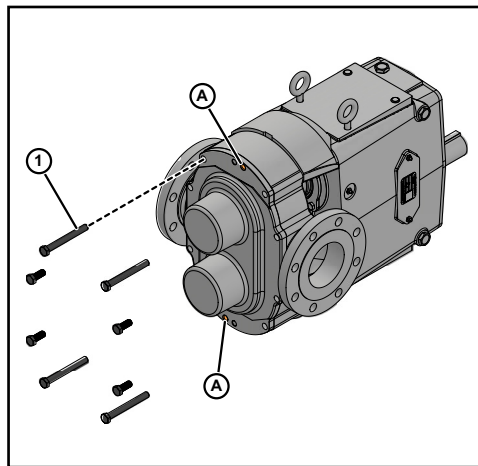

Figure 31 - Remove Cover Nuts
1. Remove eight cap screws (1) from the cover. Use two screws as jack bolts in the threaded holes (A) on the top and bottom of the cover, as shown in Figure 31. Tighten them evenly to push the cover off the dowels and rotor hubs. Make sure to have sufficient support when sliding the cover free, particularly on the larger units.